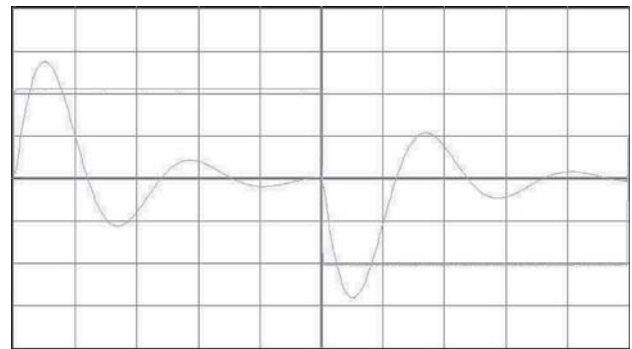

Fig. 2—Oscillatory response
4. Adjust the scope so that the resultant waveform occupies a large part of the screen. Figure 2 shows how a good picture should look.